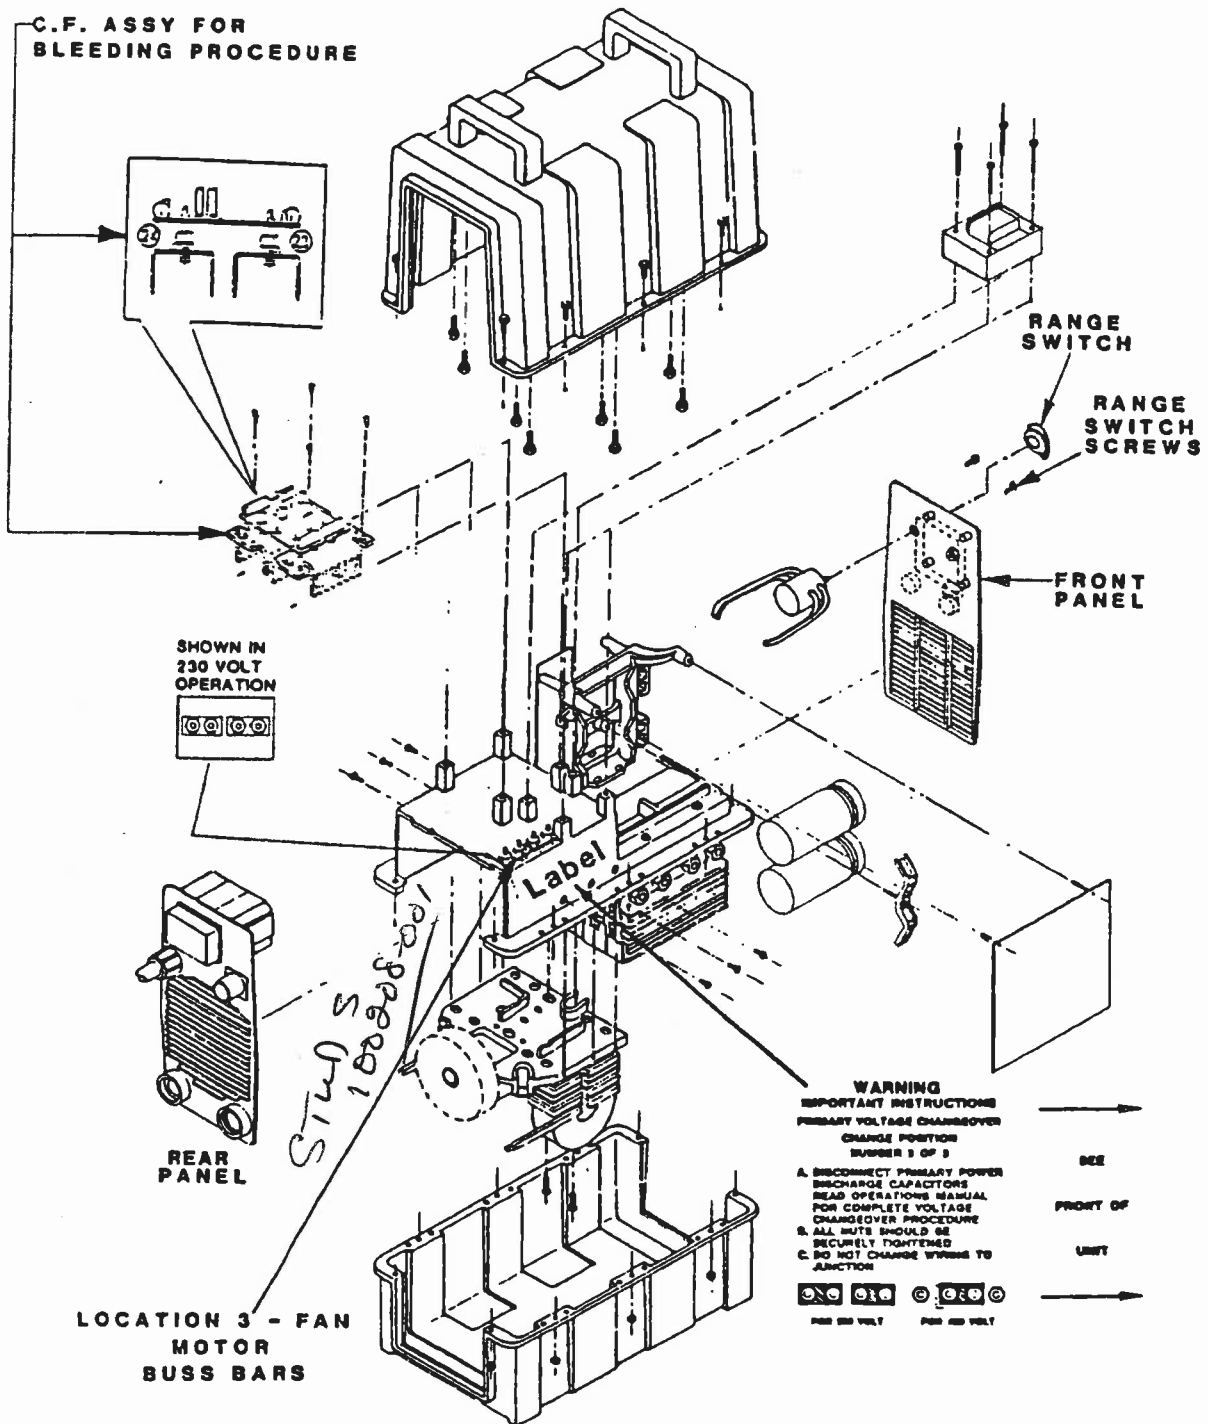

Figure 5 - Location 3 Voltage Changeover
3. Copper buss bars for fan motor. Left rear side of unit, see Figure 5, Location 3.
1. Locate and read the instruction label for the copper buss bars shown in Location 3 of Figure 5.
2. Locate the C.F. assembly inside the unit as shown in Figure 5. The C.F. assembly can be identified by two aluminum heatsinks which contain three diodes each.